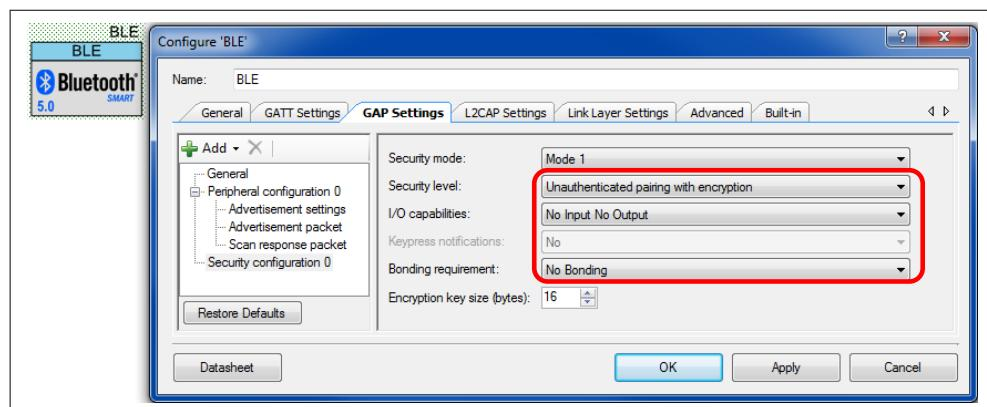

Figure 589 PSoC™ Creator BLE component, GAP Settings tab configuration
- Security configuration 0 (see Figure 589), Security level: **Unauthenticated pairing with encryption**.